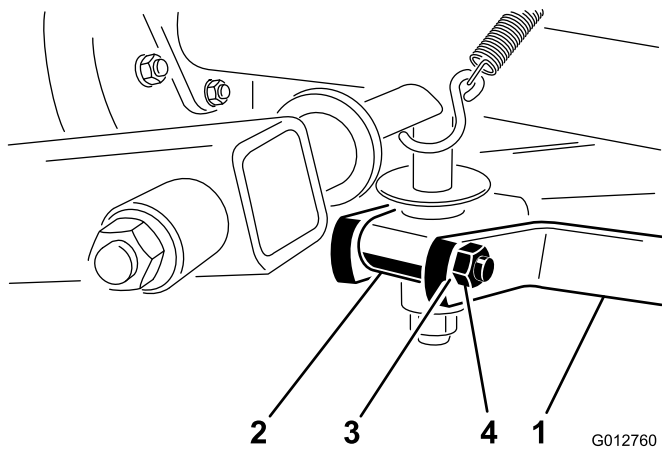

Figure 15
1. Align mounting holes in draw bar with mounting hole in lift bail housing. Offset hole in draw bar should be positioned up (Figure 15).